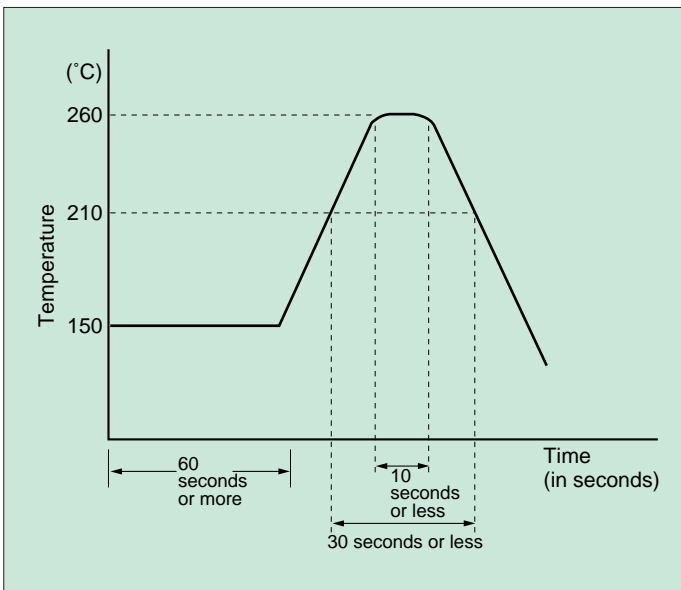

Figure 1
- (1) Lead temperature must be not more than 260°C, and flow time must be not more than 10 seconds.
- (2) Preheat leads at 150°C  $\pm$  10°C, for 60 $\pm$ 30 seconds.
- (3) Keep the package resin surface temperature suppressed to 210°C or lower.
- (4) The recommended thermal profile is as shown on Figure 1.
- (5) Notes on heating